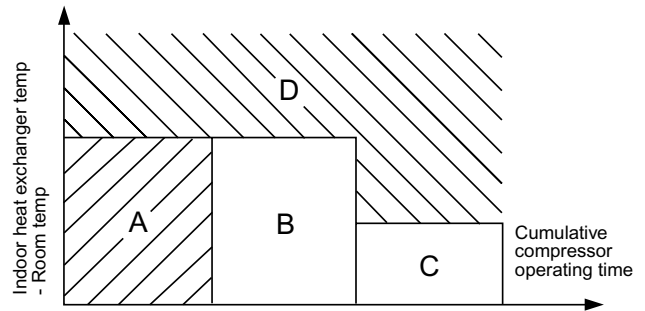

Fig. 7-4-3 (Indoor fan speed : M)
- (1) When the cumulative compressor operating time is longer than 40 or 90 minutes and difference between the indoor heat exchanger temperature and the room temperature is less than the specified value. (This value is decided by the microprocessor.) (Control example is shown in Fig. 7-4-3. In case of B or C, the defrost operation starts.)
- (2) When the current limit control or the high temperature limit control is performed for total of 90 minutes.